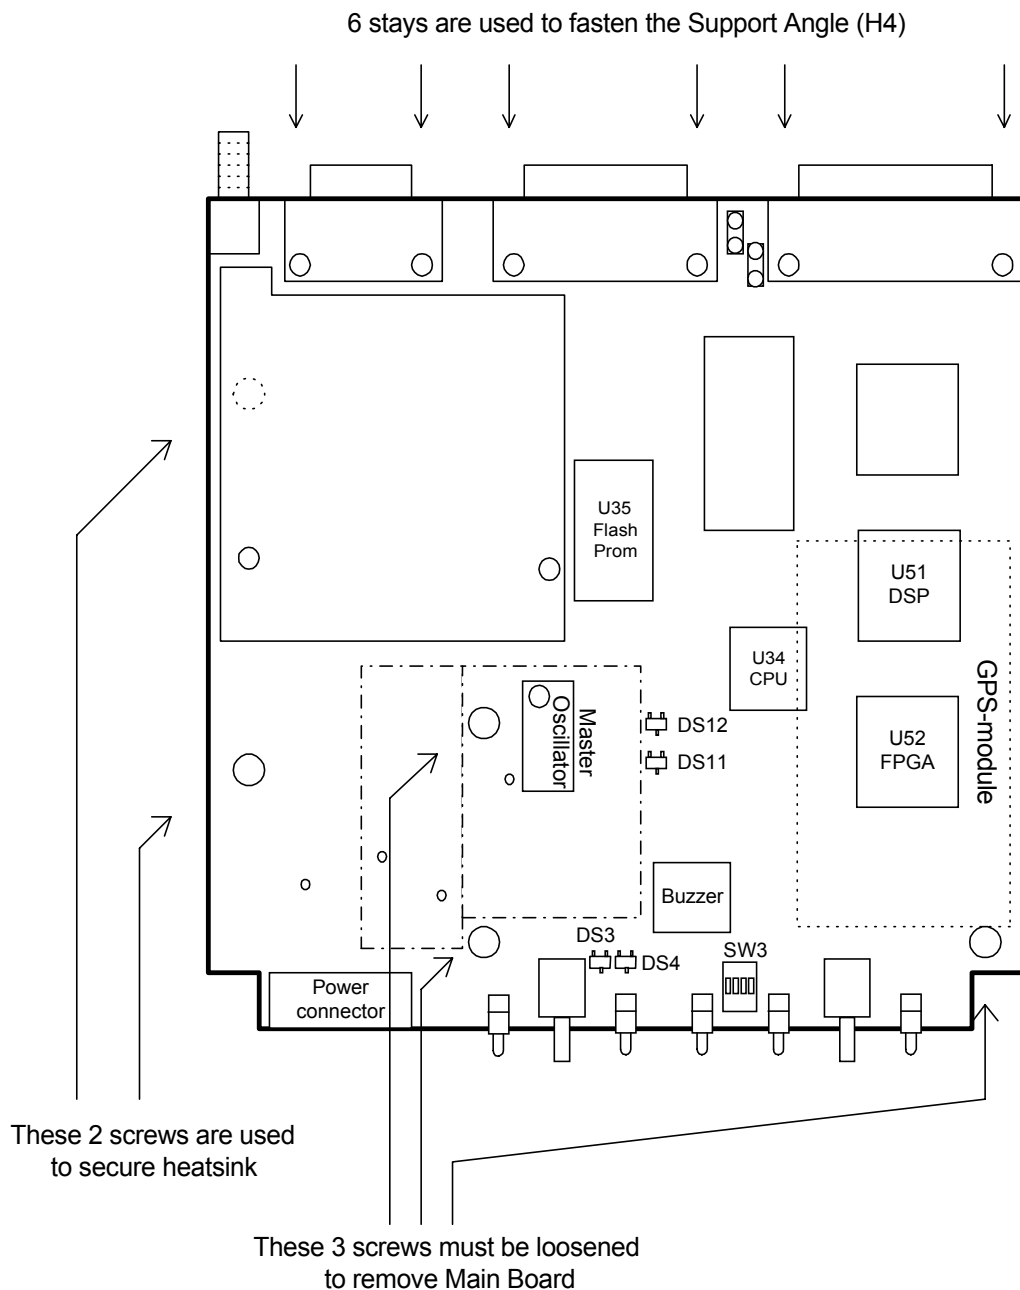

Figure 10 The Main Board are fastened with 5 screws and 6 stays.
- 2) Remove the Shield cover from the Main Board (please refer to Figure 10). The Shield cover has been soldered to the Shield Frame. You must unsolder the Shield cover in order to remove it.
- 3) The next step is to remove the Heatsink Block (H5). The Heatsink Block is secured by 2 screws through the Main Board. One of these screws were located under the Shield cover. These 2 screws are loosened and the Heatsink are removed. The screws used to fasten the Main Board is shown in Figure 10